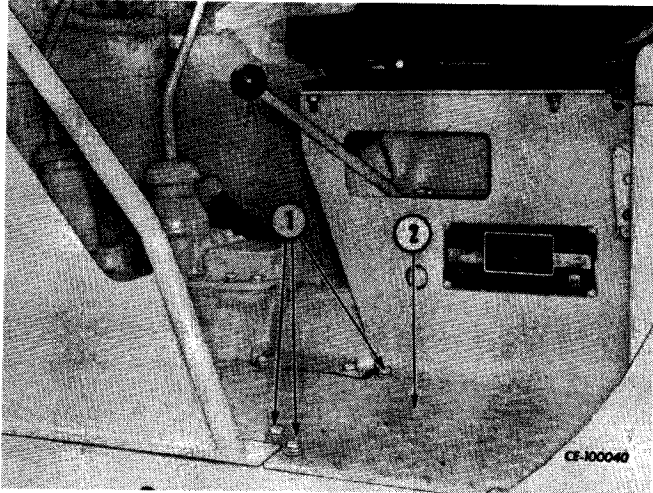

Figure 11-23
The steering cylinder is located directly under the left side of the operator's compartment. To gain access to the steering cylinder, remove cap screw and lock washers (1, Fig. 11-23) and remove floor panel (2).
Once proper adjustment is accomplished, position floor panel (2, Fig. 11-23). Install and tighten cap screws (1).